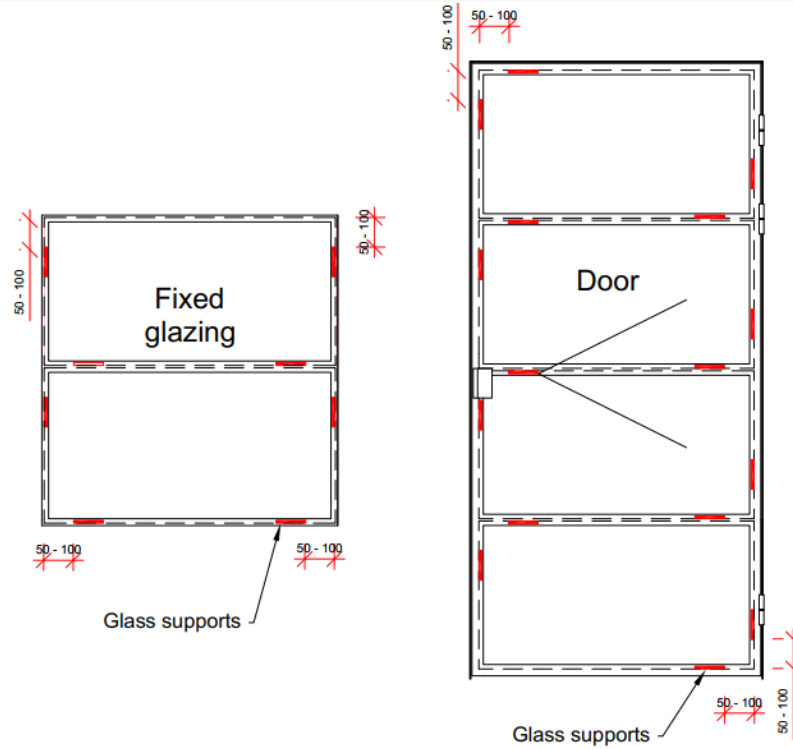

Figure 5 Glass support locations
2. Place glass supports on to the frame. Height of the glass supports must be 5 mm and thickness must be equal to the glass thickness (Figure 5).